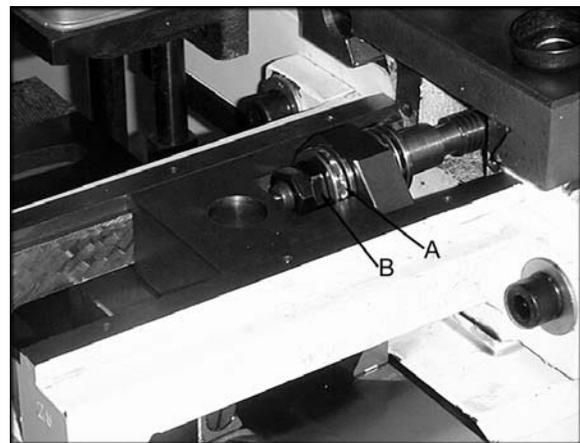

Figure 5
22. Replace the outer bearing assembly (A, Figure 5). The smaller inner diameter bearing goes on first.
23. Install two hex nuts (B, Figure 5). Tighten the inner nut first to snug up the bearing assembly. Turn the cross slide handle and check for smooth rotation. Tighten the jam nut to hold the adjustment.